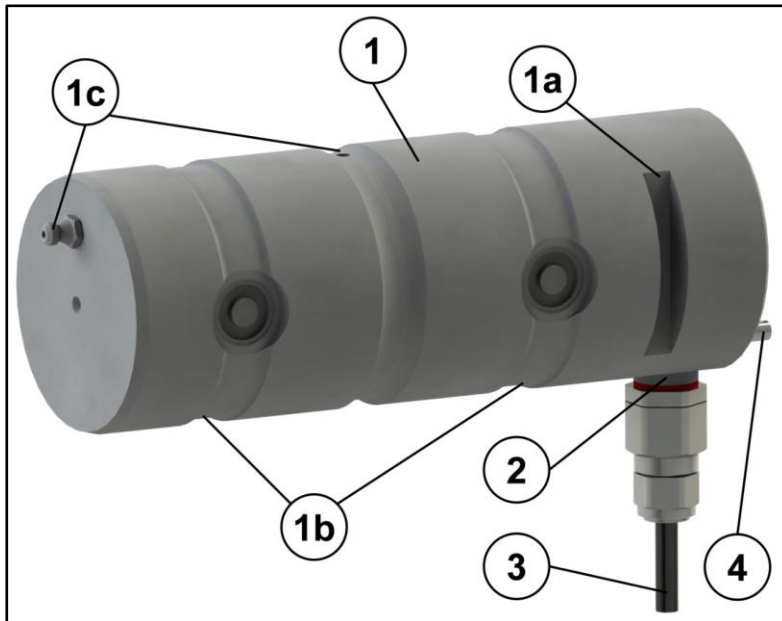

Fig. 1: Force measuring pin
The force measuring pin (1) is inserted into the mounting holes (2) of the double-shear connection, which have a corresponding diameter, and secured against unintended movement by means of a pin holder (see Fig. 1, point 1a). Force F transmitted from the connection is transmitted to the measuring electronics through analysis of the resulting deformation of the measuring body and output as an electric signal.